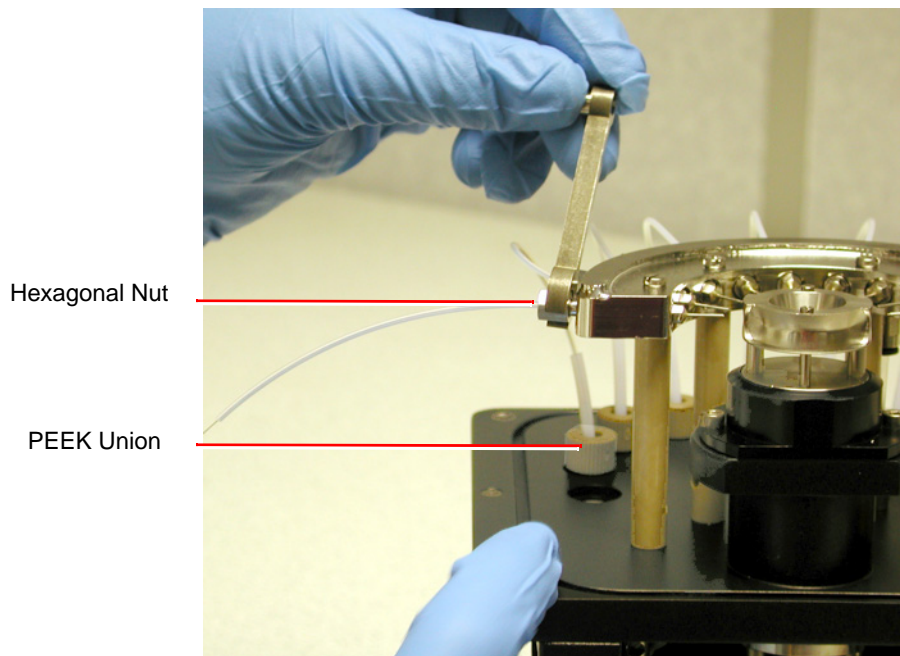

Figure 8-24 Unscrewing the hexagonal Nut
3. Unscrew the hexagonal nut from the probe support segment (Figures 8-24 and 8-25).
4. Unscrew the finger-tight PEEK fitting from the union passing through the MUX flange (Figures 8-24 and 8-26).